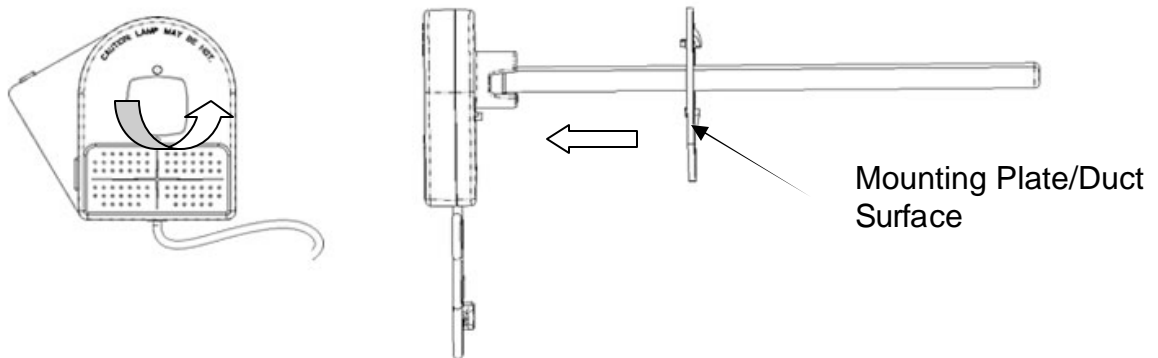

Figure 5 – Remove lamp bulb
3. Rotate your lamp unit counterclockwise and gently pull the lamp unit to remove lamp assembly. See Figure 5.
5. Remove bulb. See figure 5.
8. Reinstall unit into duct mounting plate as show in figure 5. Never look directly at your bulb while illuminated.